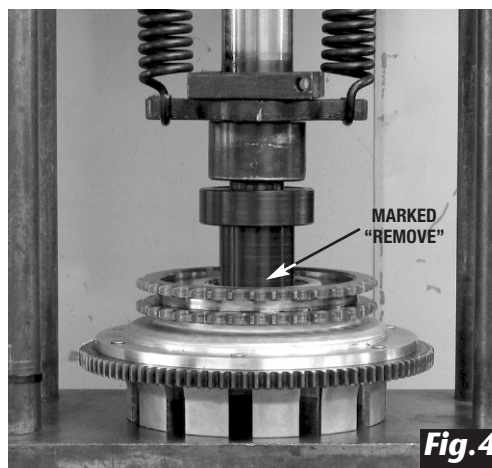

Fig. 4
7. Turn over clutch shell and place No.1 bearing remover tool with side laser marked "REMOVE" into bearing and press bearing out of the clutch shell. See Fig 4.